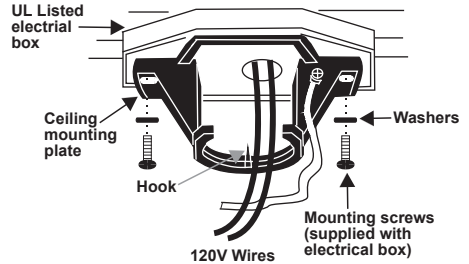

Fig.6
Step 1. Pass the 120-volt supply wires through the center hole in the ceiling hanger bracket as shown in (Fig.6)